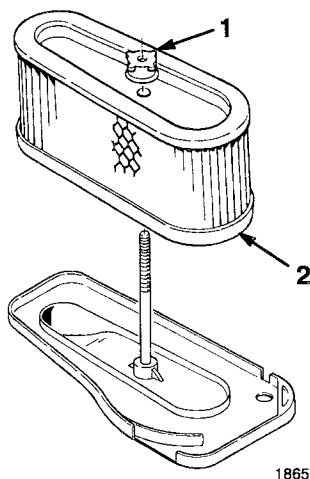

Figure 29
5. Unscrew the rubber nut and remove the paper element (Fig. 29).
2. Slide the air cleaner assembly onto the long rod. Now screw the rubber nut finger-tight against the air cleaner (Fig. 29).